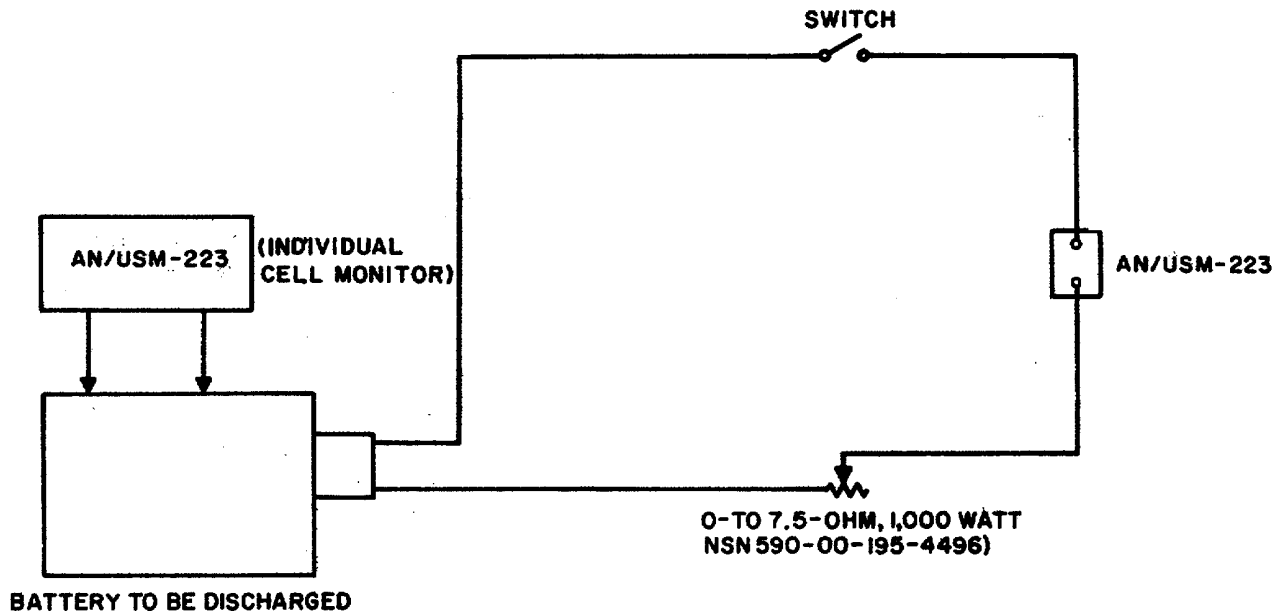

Figure 5-3. Discharging Connection Diagram.
- c. Discharge the battery using the proper load fixture and the instructions contained in (4) below. If a load fixture is not available then proceed as described in (1), (2), and (3) below.
(1) Connect the 0- to 7.5-ohm, 1,000-watt variable resistor (item 8, app E), two Multimeters AN/USM-223, knife switch (item 7), and nickel cadmium battery to be discharged as shown in figure 5-3. (Be sure that the knife switch is in the open position.)
(2) Close and open the knife switch as necessary while adjusting the 0- to 7.5-ohm variable resistor for a resistance value high enough to permit the discharge current to flow at approximately the 2-hour rate of the battery. Monitor the terminal voltage of each cell during discharge using the AN/USM-223. When the terminal voltage of a cell reaches 0 volts, place a shorting device